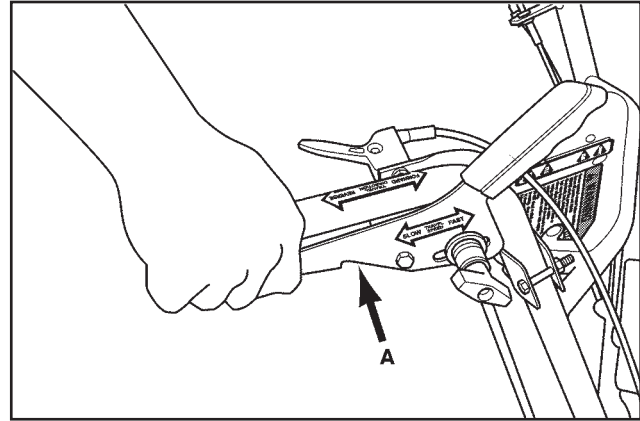

FIGURE 18 Forward Direction
1. SLOWLY apply pressure and PULL UP on the HYDROSTATIC CONTROL LEVER, A, as shown (See Figure 18).